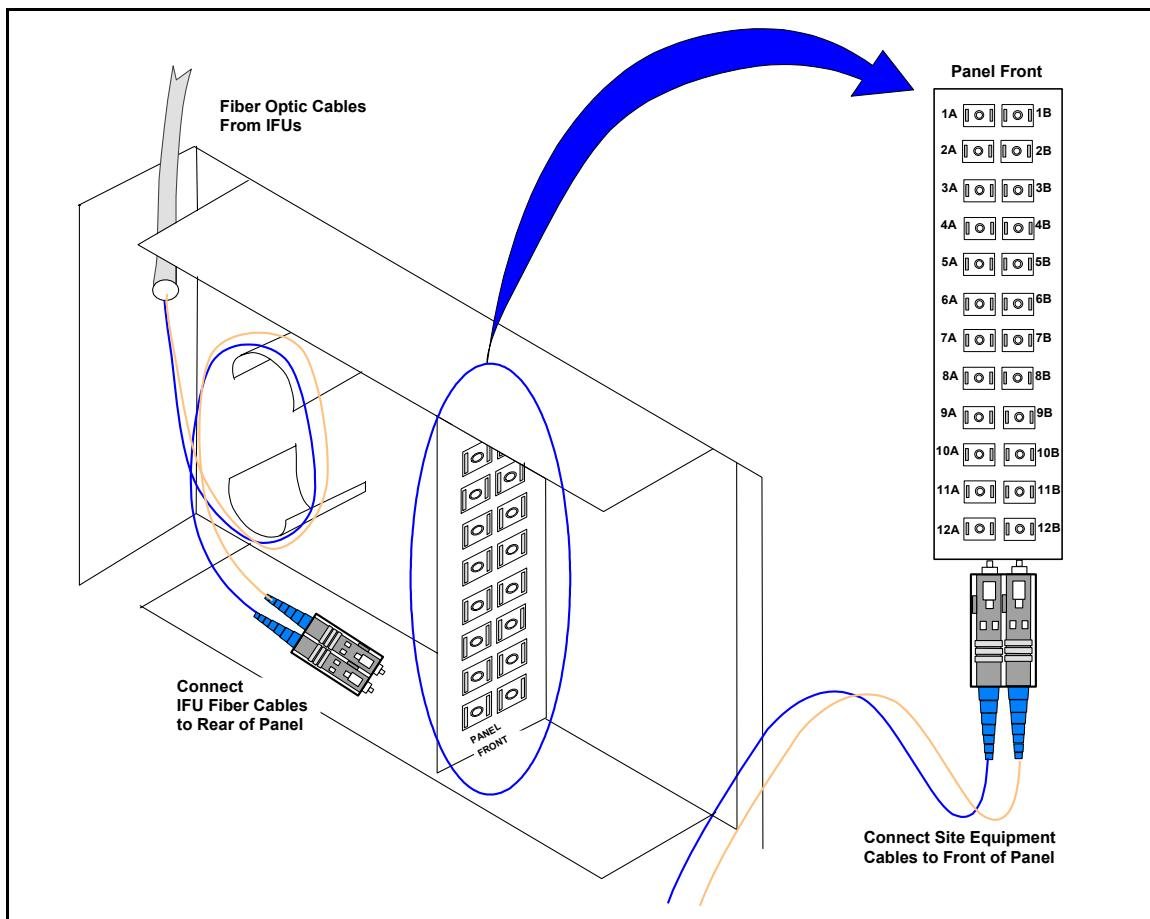

Figure 3-6. Demarcation Patch Panel
- 2 Connect the IFU fiber optic cables to the rear side of the demarcation patch panel as shown in Figure 3-6 and Table 3-4.